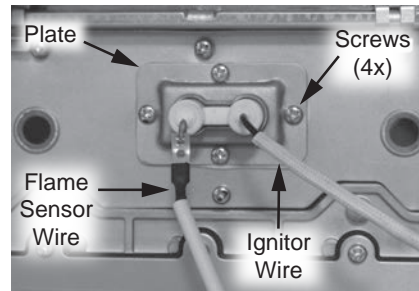

Figure 59 - Ignitor rod and flame sensor rod assembly
- 4 Disconnect flame sensor wire from flame sensor rod and the Printed Circuit Board (PCB). Dispose of properly. See Figure 59.